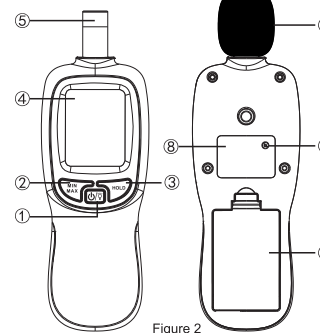

Figure 2
C. Name of Each Component (referring to Figure 2)
- ①. Power switch/Backlight power button
- ②. Maximum/Minimum locking key
- ③. Measurement data hold key
- ④. LCD display
- ⑤. Electric condenser microphone
- ⑥. Wind-resistant ball
- ⑦. Calibration knob
- ⑧. Machine stick
- ⑨. Battery door